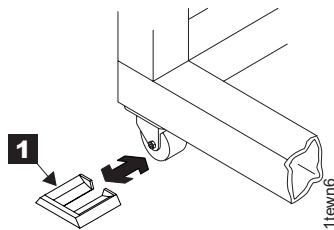

Figure 2. Wedge chocks
5. Install the wheel chocks **1** (located in the ship group) on all four casters. Refer to Figure 2.